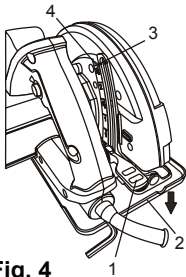

Fig. 4
Lift the depth adjustment locking lever (1) upward (Fig. 4).